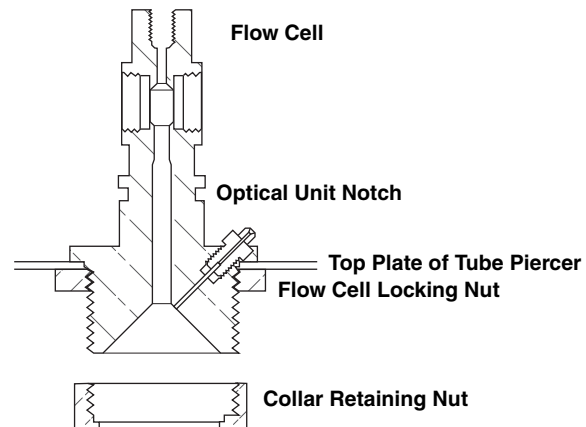

Figure 2-1 Attaching flow cell to tube piercer
1. Attach the flow cell to the tube piercer (Figure 2-1):